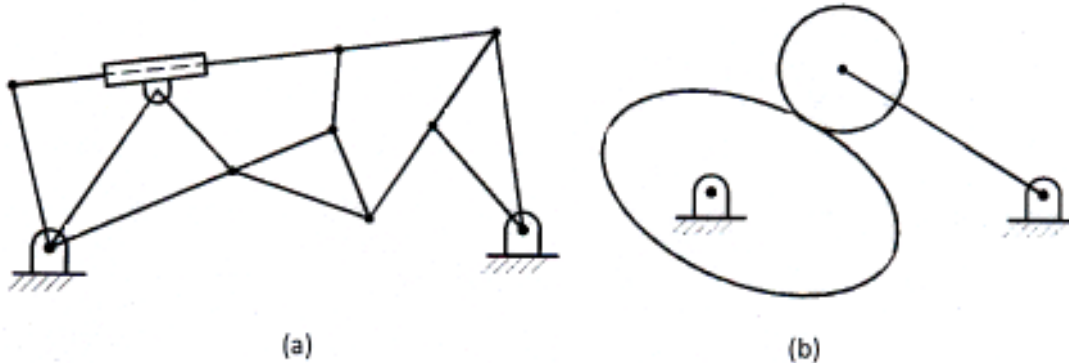

Fig 1
b) Determine the degree of freedom of the mechanisms shown in Fig. 1 **8**